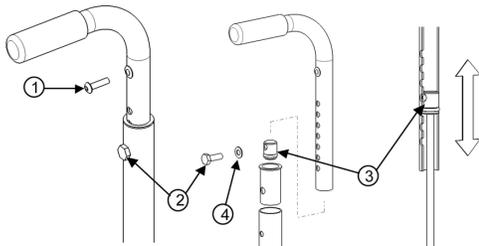

Fig. 12
- Loosen the screw (1) (Fig. 12) that holds the back upholstery.
- Pull backrest upholstery down several centimeters in order to access screw (2) that holds the push handle.
- Remove screw (2) and the backrest handle.
- To adjust the backrest height, with the help of a threaded rod ($\frac{1}{4}$ "-20), VELOCE the dowel nut (3), which is located inside the handle.
- Once this step is completed, use screw (2) to hold the dowel nut (3) while removing the threaded rod.
- Remove screw (2) and reinstall backrest handle.
- Align screw (2) with the mounting hole.
- Reinstall and tighten screw (2) and the washer.
- Reinstall the backrest upholstery with screw (1) and tighten to fit snugly.